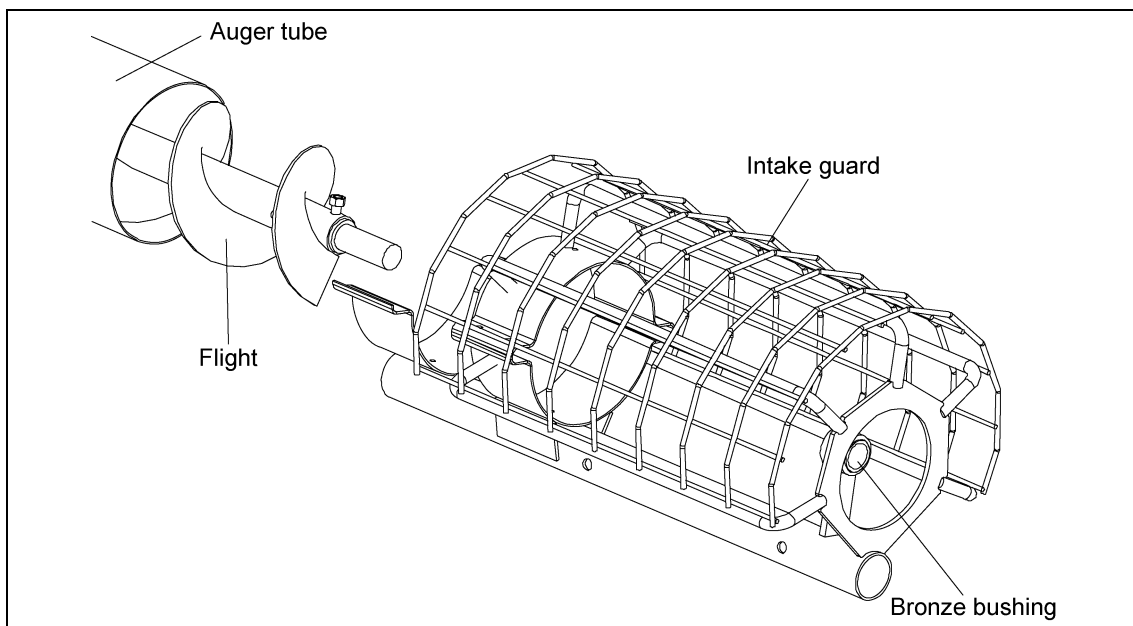

Figure 4V
1. Slide the intake guard onto the auger tube aligning the intake shaft with the bronze bushing. (See Figure 4V.)